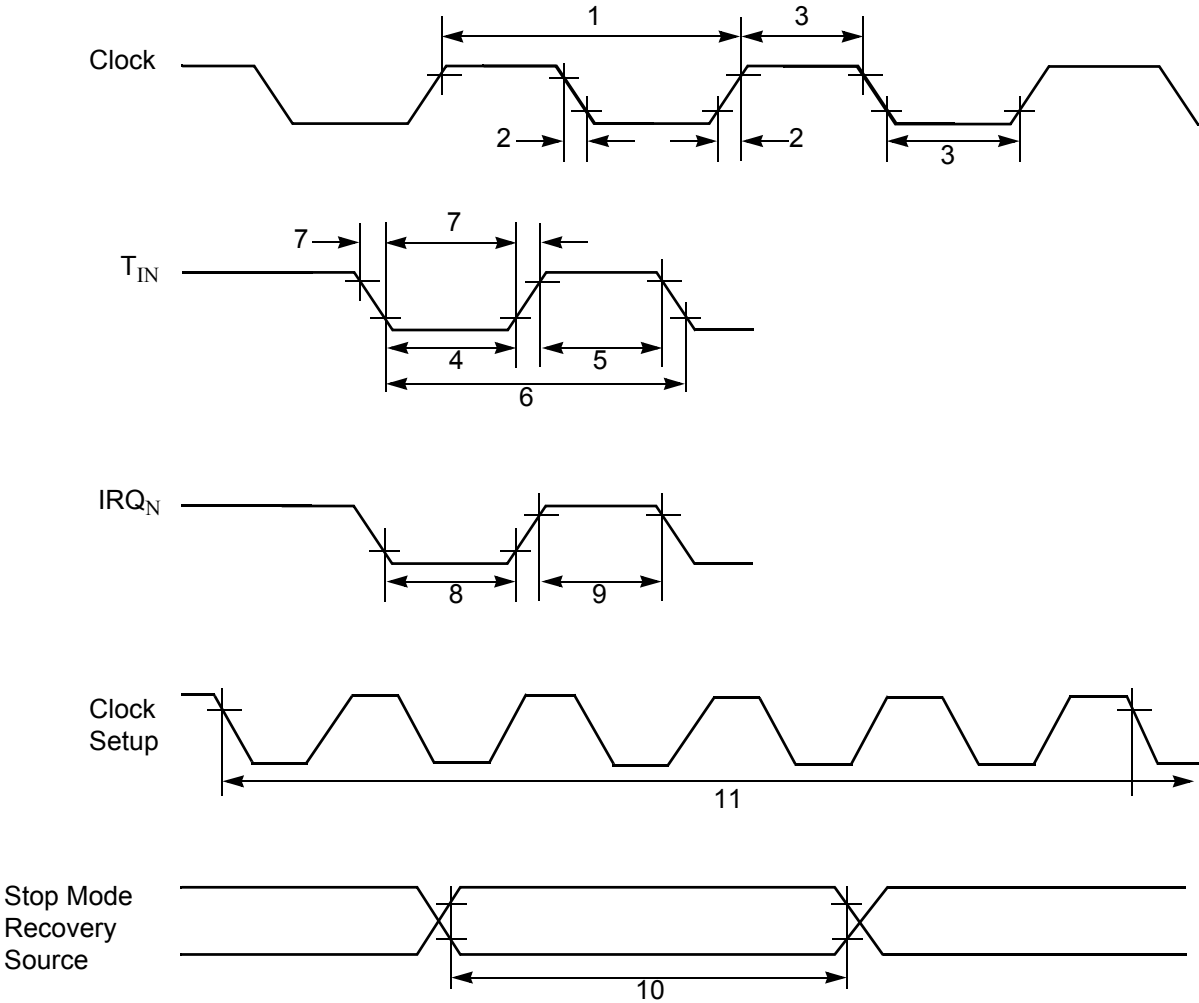

Figure 54. AC Timing Diagram
Figure 54 and Table 18 on page 76 describe the alternating current (AC) characteristics.